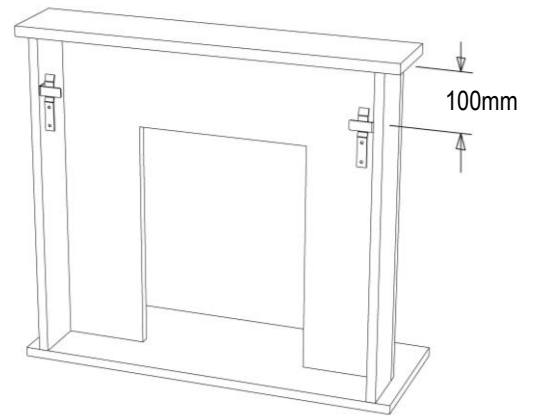

Figure 1
2. Screw the 2 mantel brackets (B) to the inside of each leg using the 4 screws provided (D - 16mm), making sure that the brackets are flush with the rear of the leg. See Fig.1&2.